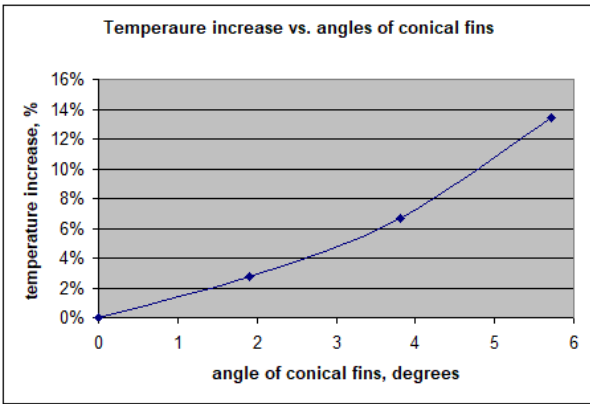

Figure 6: Temperature increase vs angles of conical fins
- Rectangular, rather than conical fins are best for optimal design, see Figure 6.